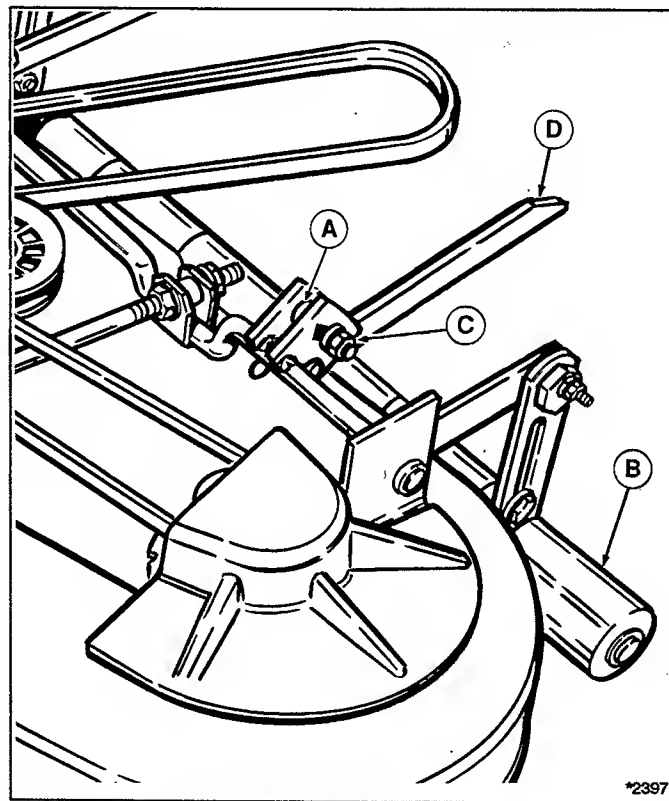

Figure 25. Transport Height Adjustment
2. Loosen nut (C, figure 25) so trailing arms are loose. Mower must be resting on rollers with no weight on trailing arms. Transport Height Adjustment should be made after Mower Leveling Adjustment.
Transport height should be adjusted so that rear mower rollers (B, figure 25) are $1/8$ "- $1/4$ " (3-6 mm) above ground when mower lift lever is in transport position. To adjust height perform adjustments under Mower Leveling first, then use the following procedure: